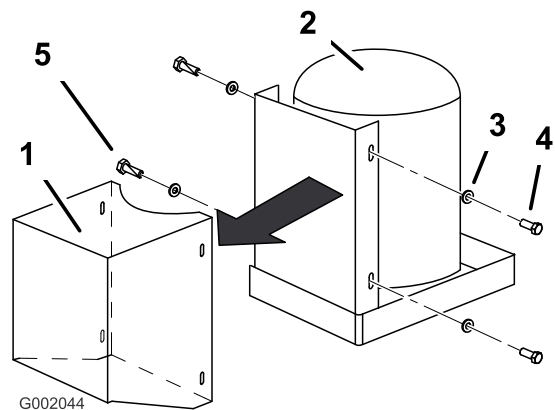

Figure 2
2. Remove the 4 bolts (1/4 x 1 inch) and flat washers that hold the cover to the tank/compressor assembly and remove the cover (Figure 2).